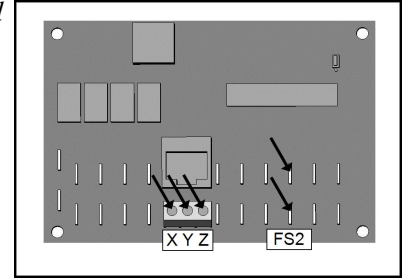

Figure 3
- Connect one wire to "Y". See Figure 3.
- Connect "High" or "Spa" wire to "X". See Figure 3.
- Connect "Common" wire to one terminal of "FS2". See Figure 3.